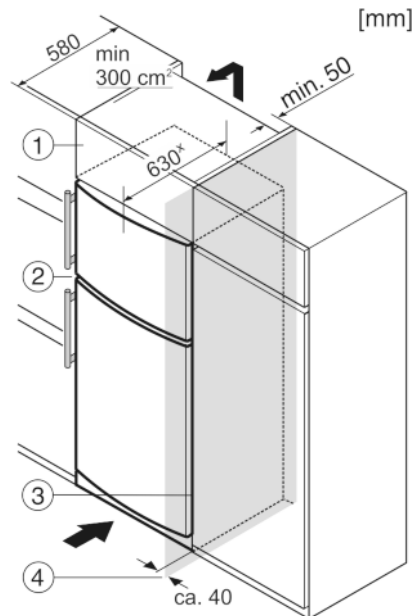

Fig. 7
- (1) Stack cabinet
- (2) Appliance
- (3) Kitchen cabinet
- (4) Wall
The appliance can be inserted into a row of kitchen units. To match the appliance *Fig. 7 (2)* to the height of the row of units, a suitable stack cabinet *Fig. 7 (1)* can be fitted above the appliance.
When installing with kitchen units (max. depth 580 mm), the appliance can be positioned directly next to the kitchen cabinet *Fig. 7 (3)*. The appliance will project by 34 mm* at the sides and 50 mm* in the centre of the appliance in relation to the kitchen cabinet front.
If the appliance is installed with the hinges next to a wall *Fig. 7 (4)*, the distance between appliance and wall has to be at least 40 mm. This corresponds to the projection of the handle when the door is open.